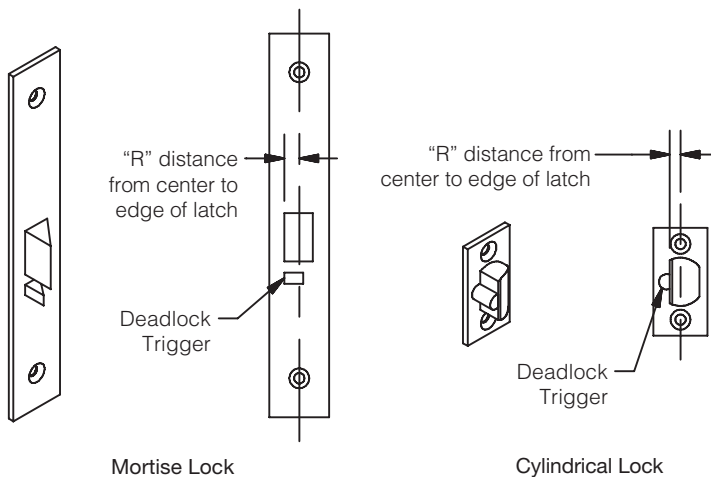
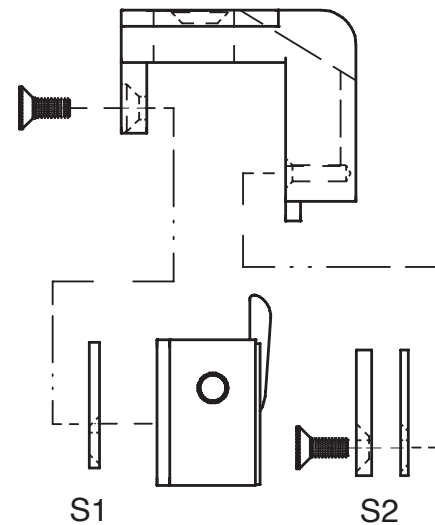

Fig. 1
Fig. 2
- To determine if the Strike Shim positions need adjustment, measure dimension "R" (see Figure 1) from the center to the edge of the latch. When necessary rearrange Strike Shims according to the chart below. The "shipped as default" positions are illustrated in Figure 2.